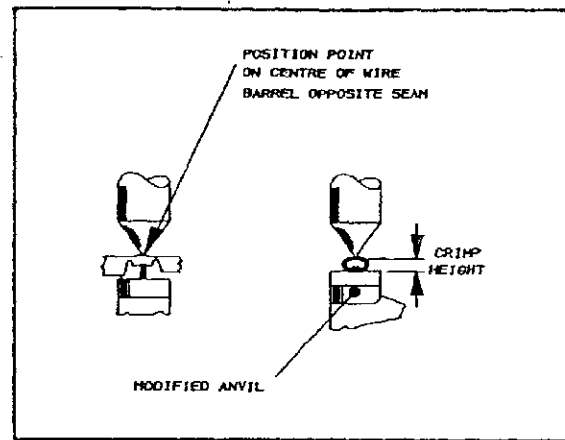

Fig.2-2
This inspection requires the use of a micrometer with a modified anvil as shown in Figure.2-2. We recommend the modified micrometer [Crimp height comparator 2-576692-0] from:
3. Using a crimp height comparator measure wire barrel crimp height as shown in Figure 2-2. If the crimp height conforms to that shown in the APPLICATION SPEC, the tool is considered dimensionally correct. If not return the tool to AMP for evaluation and repair (see para 2-3 REPAIR)